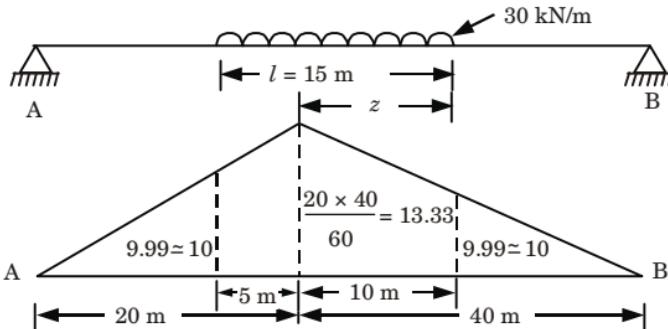

Fig. 4.14.1.
- ILD for bending moment at given section, as shown in Fig. 4.14.1.